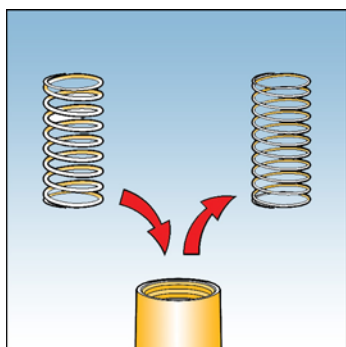

Fig. 9
- 34) Remove spring and replace with new one. See Fig. 9.
- 41) Remove spring and replace with new one. See Fig. 9.